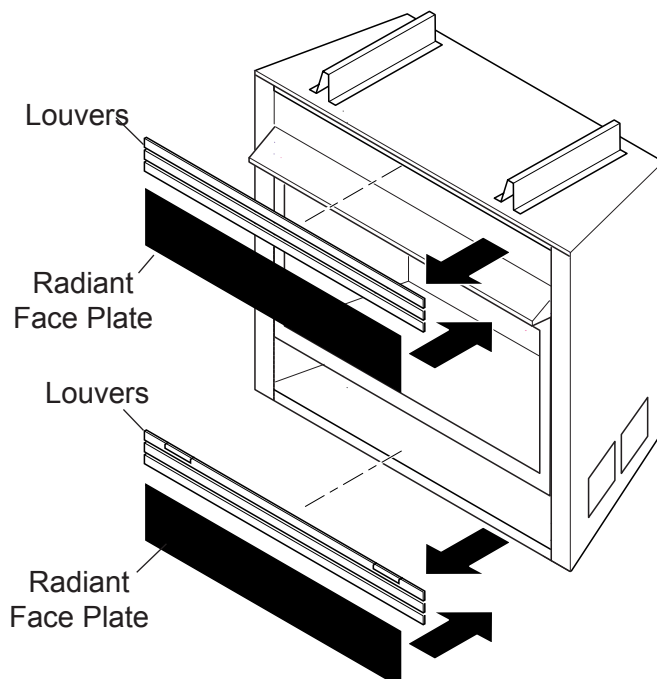

Figure 16 - Installing Radiant Face Plates
2. Snap off the three upper louvers and the three lower louvers as shown in *Figure 16*.
3. Snap on the upper radiant face plate and the lower radiant face plate as shown in *Figure 16*.